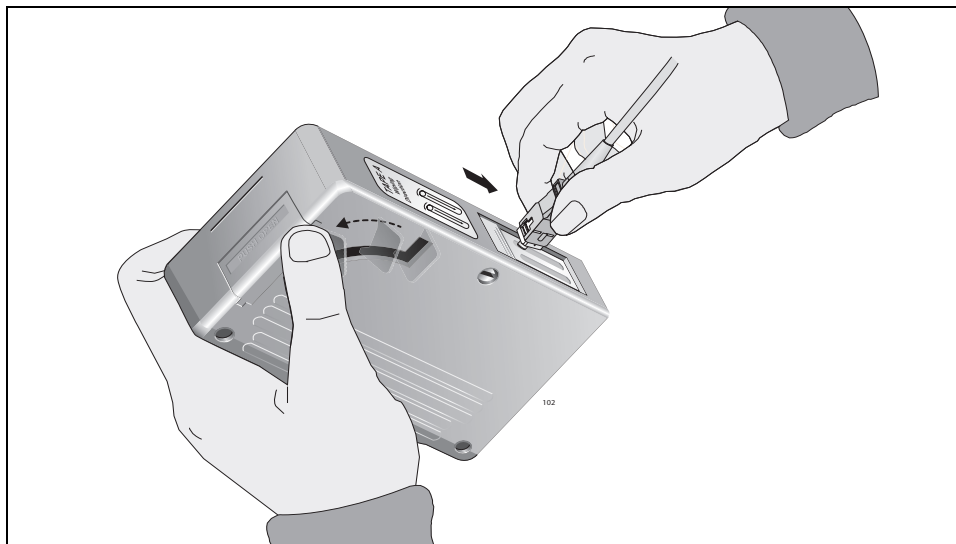

Figure 18. Rubbing the Ferrule Tip on the Cleaning Surface
1. With one hand, hold the cartridge cleaner and push the lever on the cleaning cartridge in the direction of the arrow to expose the cleaning surface, as shown in Figure 18 on page 65.
2. Place the ferrule tip on the exposed cleaning surface and rub the ferrule in a downward direction, as shown in Figure 18.